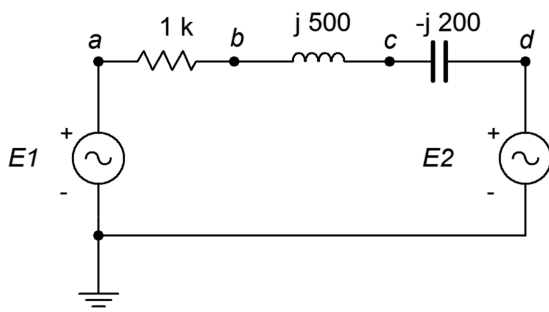

Figure 2.37
57. For the circuit of Figure 2.37, determine the voltages across each component. $E1=1\angle0^\circ$ and $E2=8\angle60^\circ$.